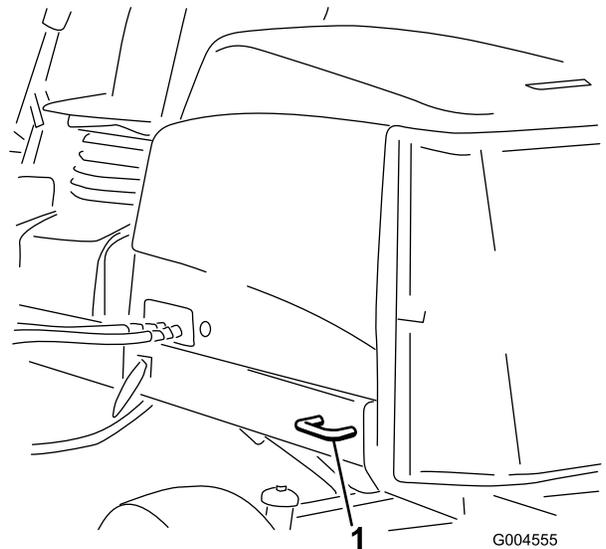

Figure 71
- Rear—each side of the machine on the rear frame (Figure 71)